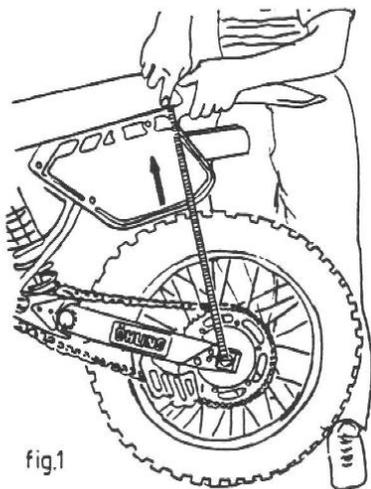

fig.1
2. Lift the rear end of the bike according to fig. 1. Measure the distance between the rear wheel axel and a point near the rear end of the seat, for example a seat bolt.